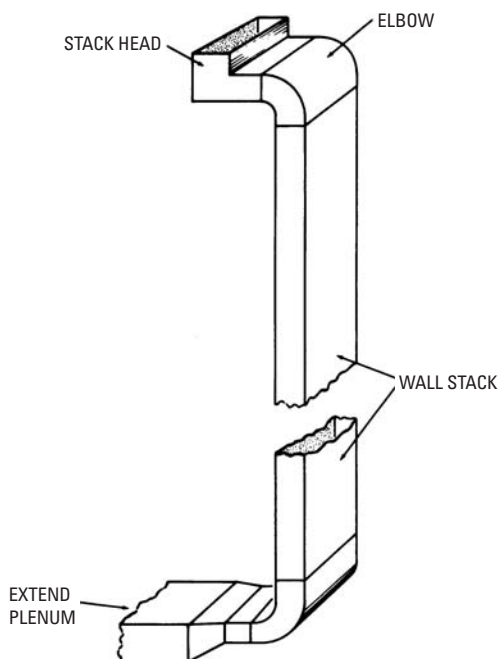

Figure 7-14 Wall stack.
- Wall sections (see Figure 7-14)